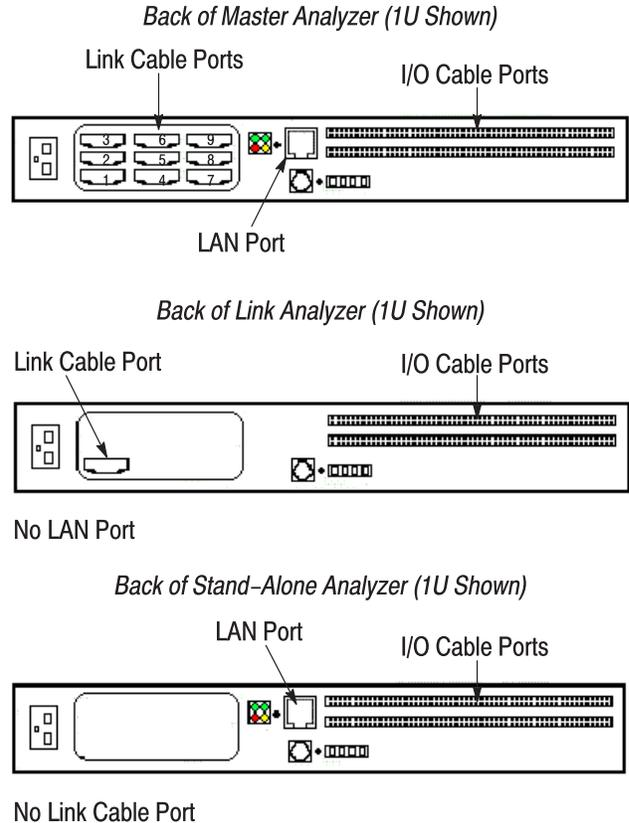

Figure 2
1. Connect the link cable(s) from the link cable port of the link analyzer(s) (maximum of nine) to the link cable port(s) of the master analyzer in sequential order starting with Port 1. Refer to Figure 2.